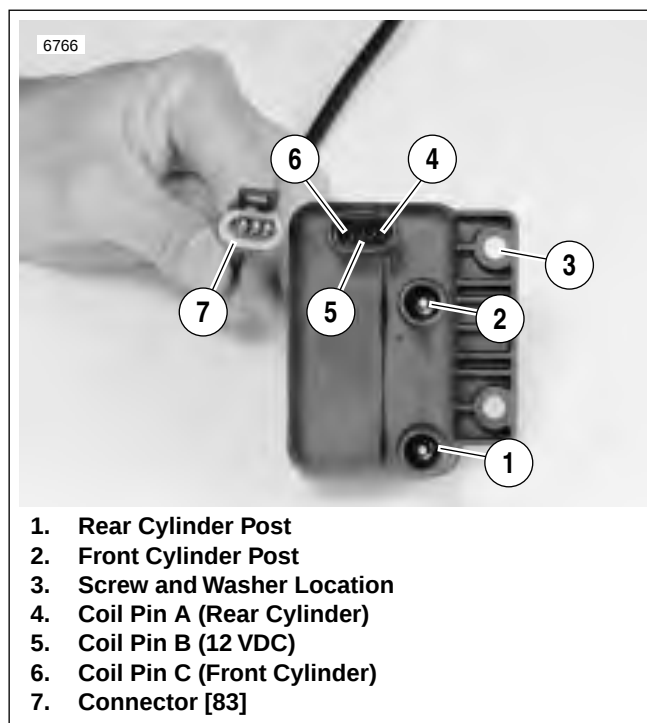

Figure 7-5. Ignition Coil
See Figure 7-5 The three-position combination ignition/headlamp key switch is not repairable. Replace the unit if it fails.
The key locks the ignition system and is removable in both the OFF and PARK positions. The PARK position is located between the OFF and IGNITION positions and allows the rider to remove the key while leaving the lights on. When the key is placed in the PARK position, several indicator markers are or can be activated. See Figure 7-5
3. See Figure 7-5 Disconnect ignition key switch connector [33] from main wiring harness.